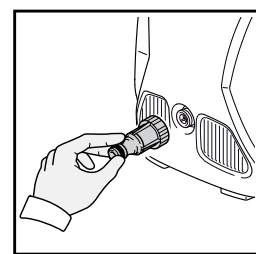
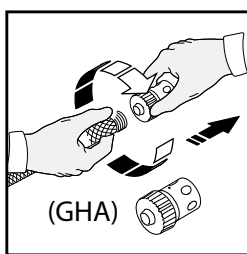

Fig. 13
Fig. 14
- First, remove the plastic shipping cover on the water inlet on the front of the power washer. Attach the clear plastic adapter by screwing it into the water inlet (Fig. 13). Hand tight is fine. Next screw on the blue/black collar attachment to your garden hose (Fig. 14). Slide the blue/